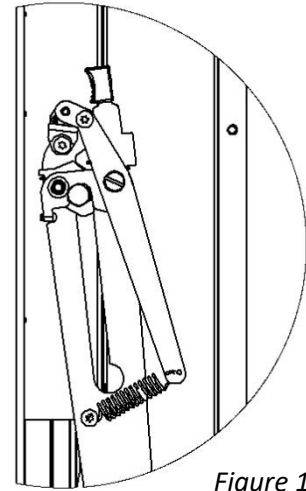

Figure 1
5. Optional Self-Closing Mechanism: Integrated in hold open arm assembly. (Figure 1)